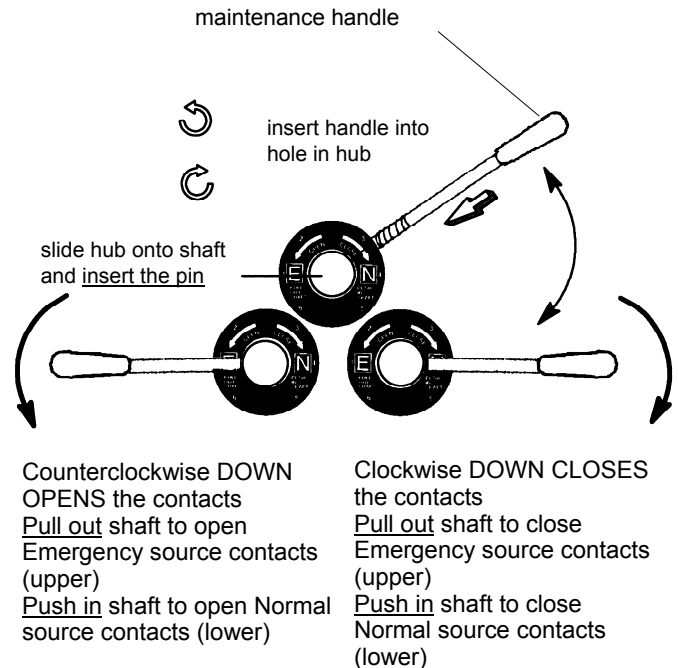

Figure 5. Maintenance handle on 3ADTS & 3NDTS.
3. 3ADTS and 3NTS have two contact shaft hubs. See Figure 5.